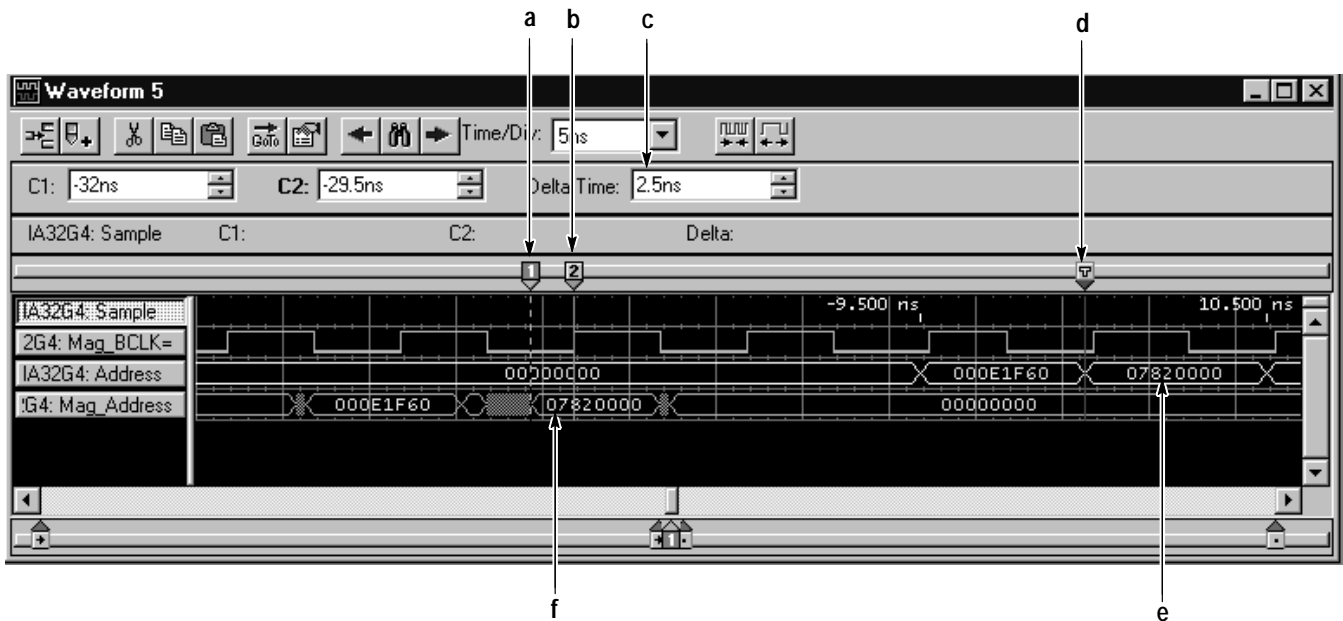

Figure 1–2: MagniVu Waveform window
8. Select the GoTo button to find the trigger point in the MagniVu window. The trigger point is centered at the transition of the nonMagniVu selected group (see Figure 1–2, d).
10. Check for where the transition information (see Figure 1–2, e) of the selected nonMagniVu group matches the MagniVu waveform value (see Figure 1–2, f).